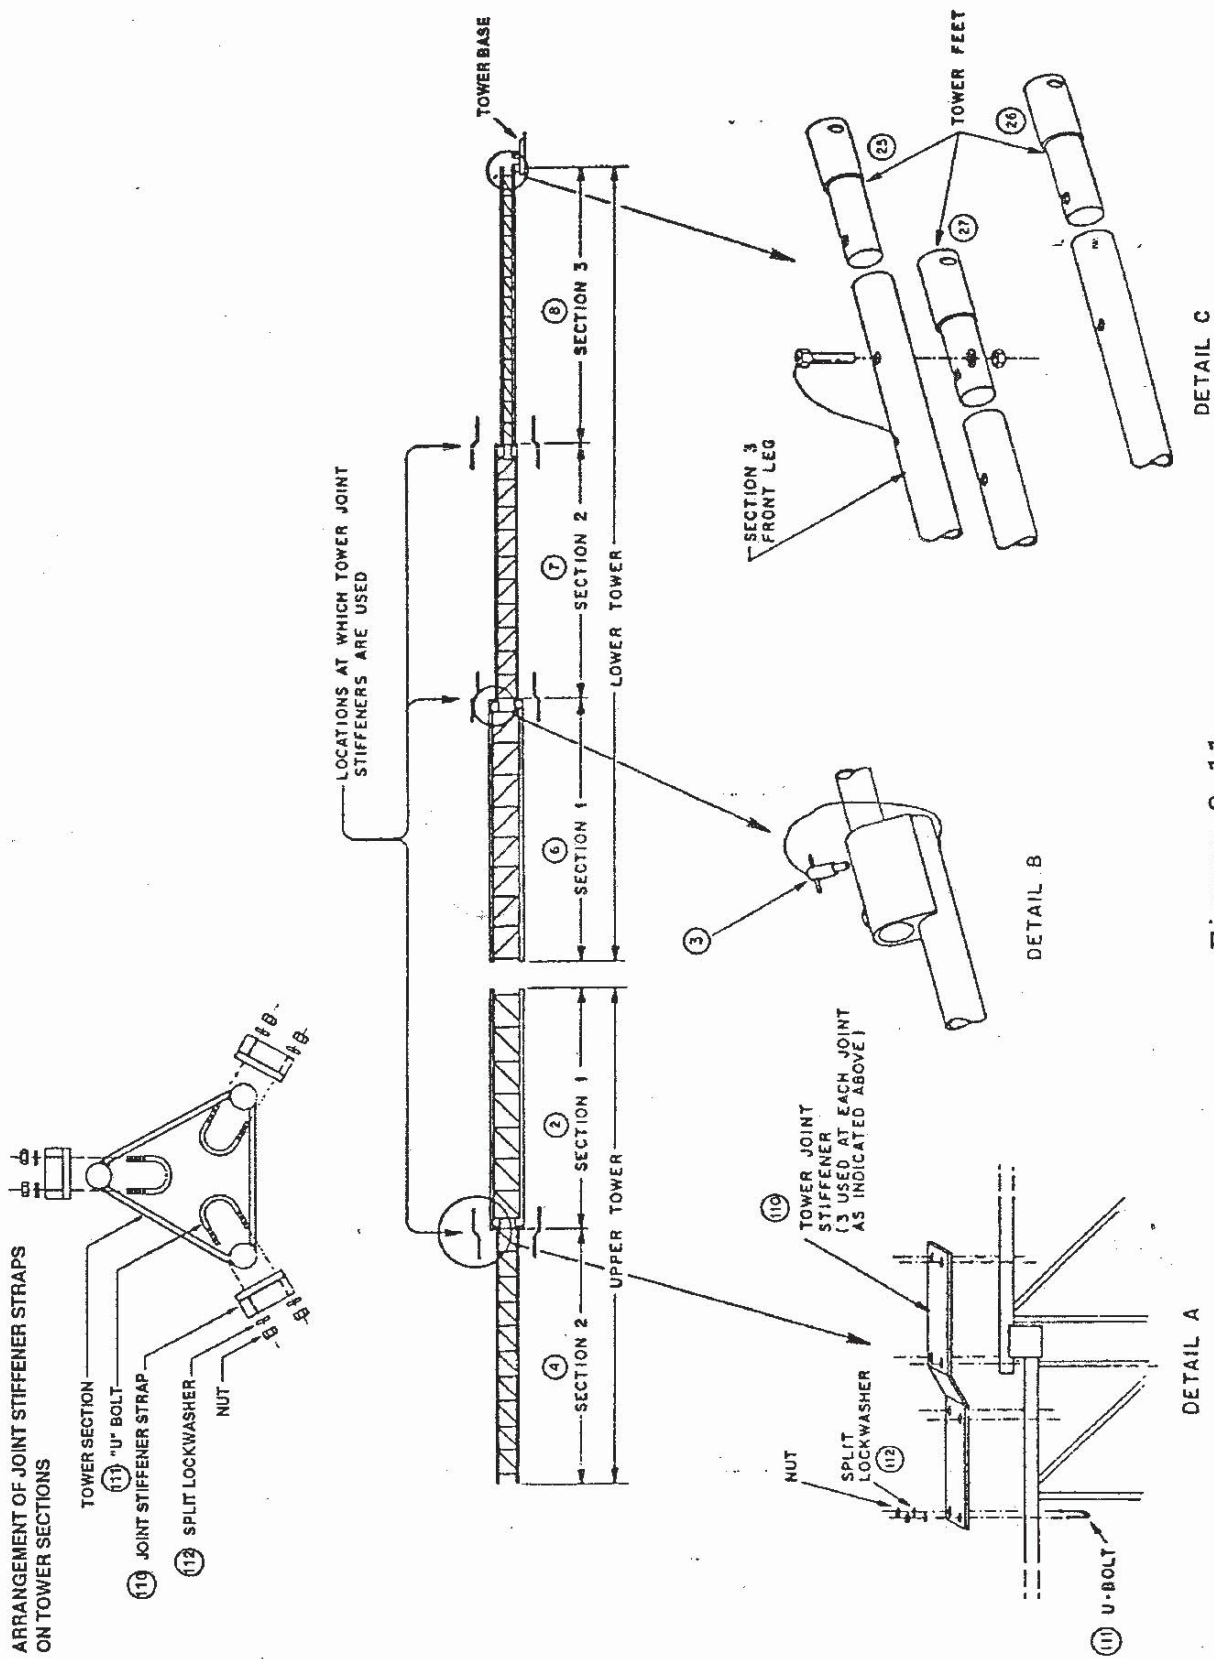
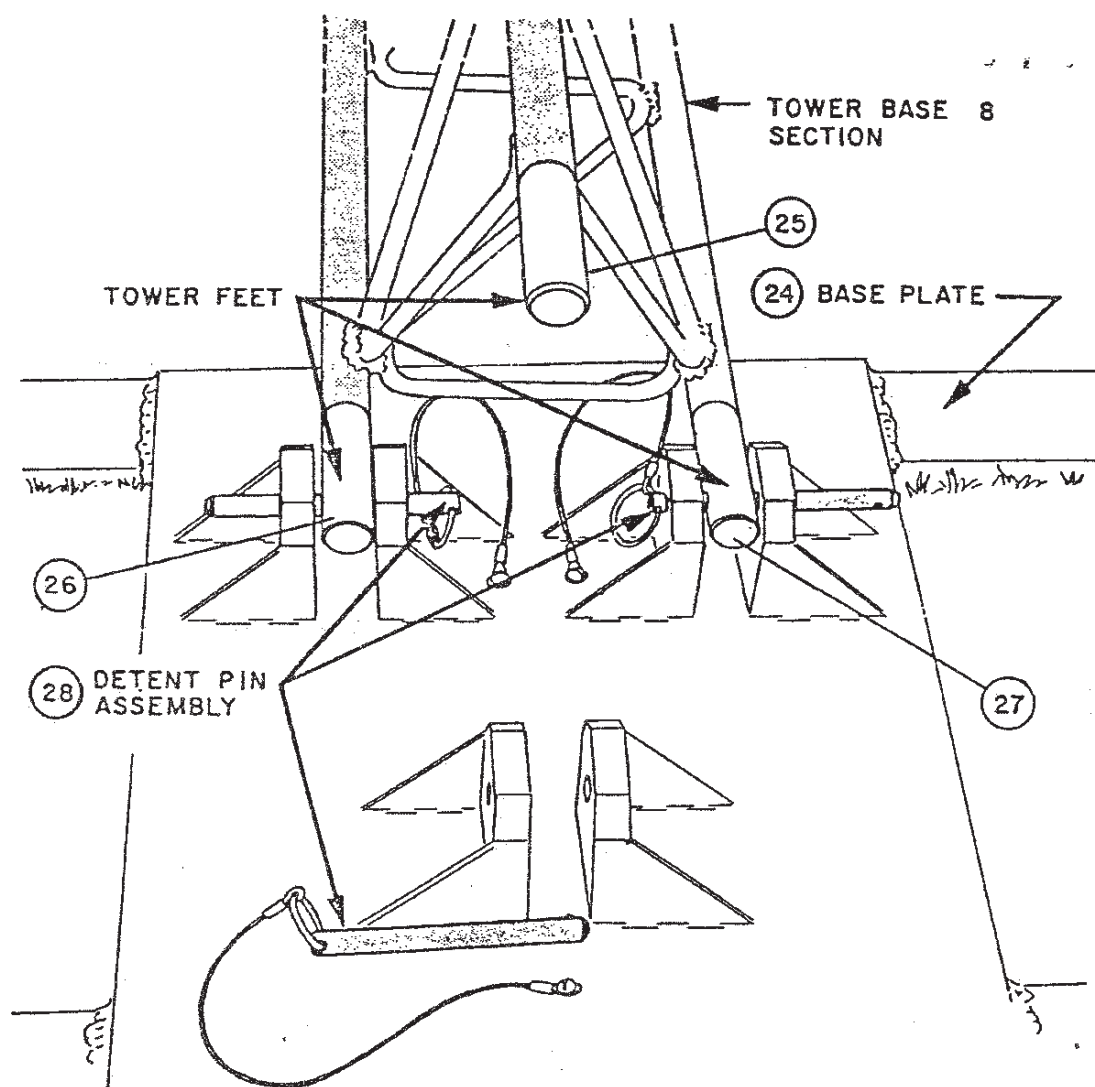

Figure 2-11
Figure 2-12
- d. One man assembles the tower feet onto the small end of the lower tower section (Figure 2-11). He then moves the lower tower section over the base plate and pins the two lower tower legs to the tabs on the base plate (Figure 2-12).
- f. Put the four U-bolts loosely into tower joint stiffeners at the tower joints as shown in Figure 2-11.
- h. After all three stiffeners of a section are loosely intalled, tighten the U-bolts uniformly. Repeat for sections indicated in Figure 2-11.